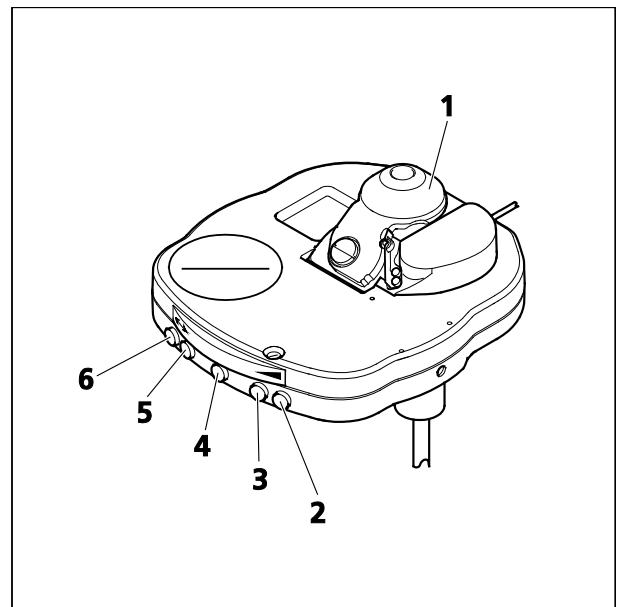

Fig. 83 Achromatic-aplanatic universal condenser, mot.
- Adjustment of aperture diaphragm via buttons (Fig. 83/2 - open) and (Fig. 83/3 - close)
- Swiveling in / out the front lens (Fig. 83/1) using button (Fig. 83/4)
- Rotating the condenser turret clockwise by means of button (Fig. 83/5), anticlockwise by means of button (Fig. 83/6)